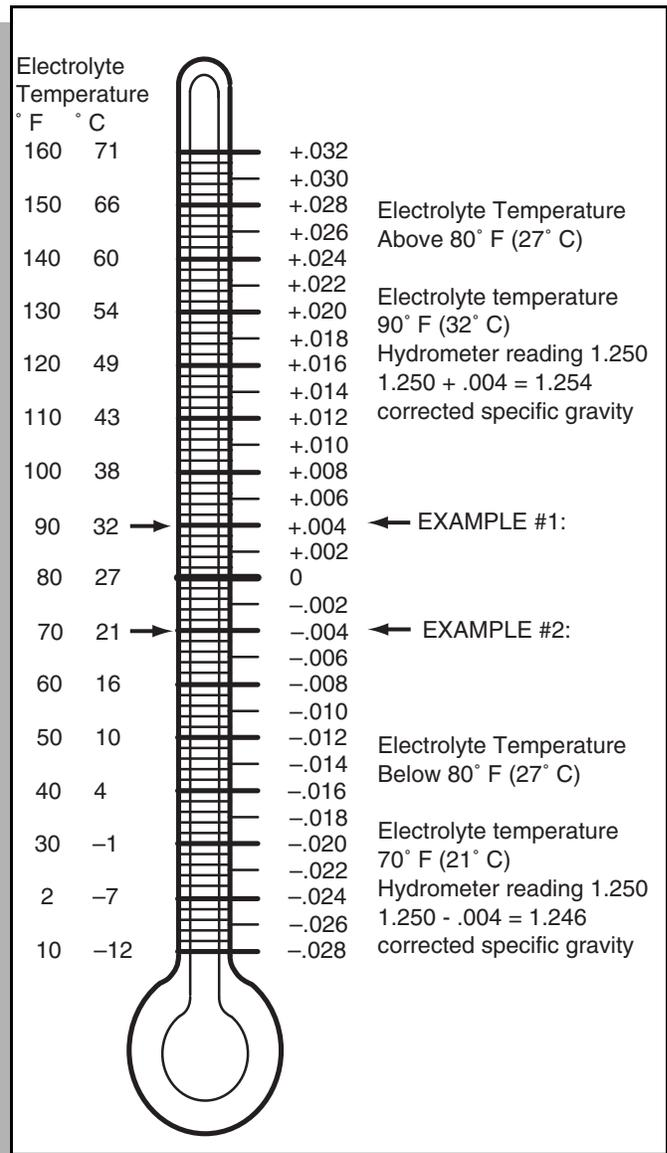

Fig. 22 Hydrometer Temperature Correction
- Add or subtract four points (.004) to the reading for every 10° F (6°C) the electrolyte temperature is above or below 80° F (27° C). Adjust the reading to conform with the electrolyte temperature, e.g., if the reading indicates a specific gravity of 1.250 and the electrolyte temperature is 90° F (32° C), **add** four points (.004) to the 1.250 which gives a corrected reading of 1.254. Similarly if the temperature was 70° F (21° C), **subtract** four points (.004) from the 1.250 to give a corrected reading of 1.246 (Ref Fig. 22 on page 20).